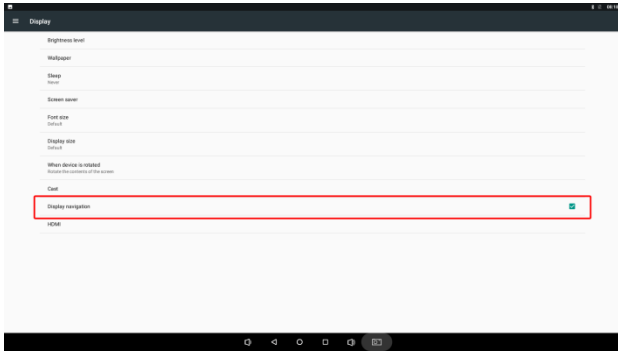

Fig. 3
3. In "Display navigation", click "√" in the option box to hide the menu bar (Fig. 3);